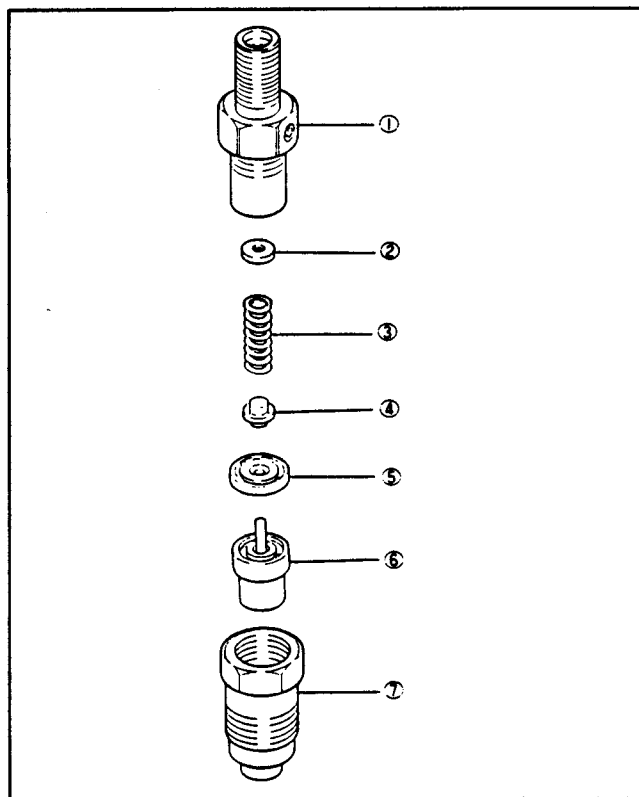

Figure 49
3. Secure the nozzle holder in a vise that has aluminum or brass jaw plates. To prevent deformation do not clamp the vise onto the retaining nut (Fig. 49).
3. Install the fuel return pipe. Tighten the retaining nut to a torque of 2.5 - 3.0 KgM (18 - 22 ft-lb) (Fig. 49).